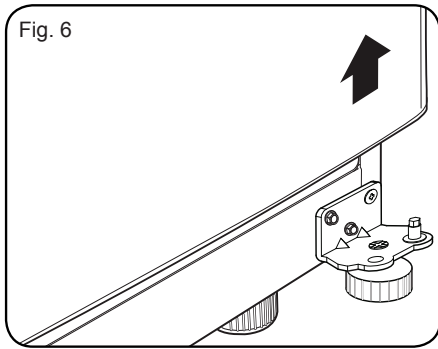

Fig. 6
- Lift up door slightly and remove it (See Figure 6).